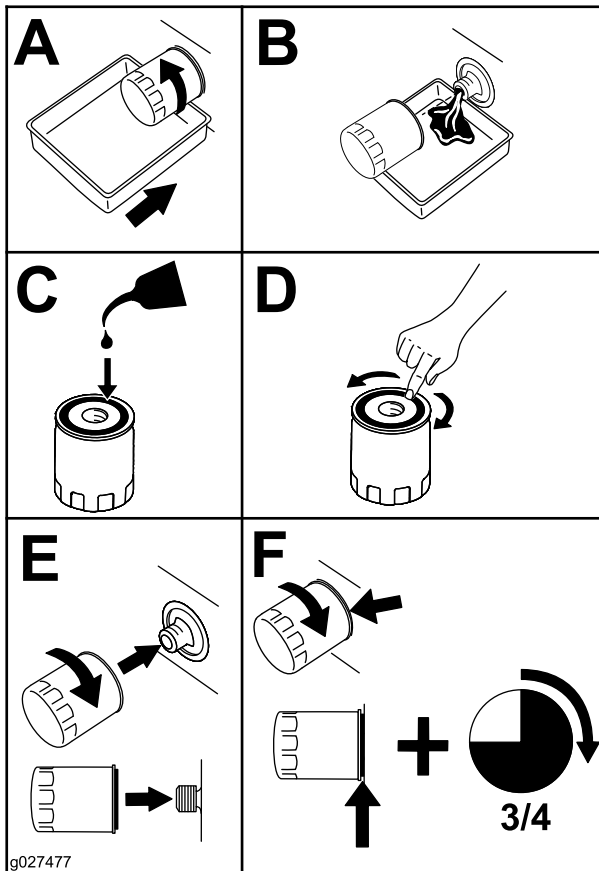

Figure 51
- Change the engine-oil filter (Figure 51).